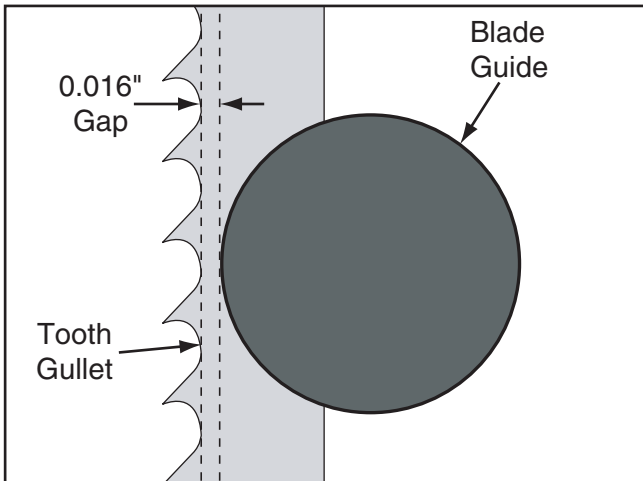

Figure 51. Correct guide alignment behind the teeth gullets.
- By hand, slide the guide block to position the blade guides approximately 0.016" behind the teeth gullets (see **Figure 51**), then re-tighten the guide block cap screw to secure the setting.